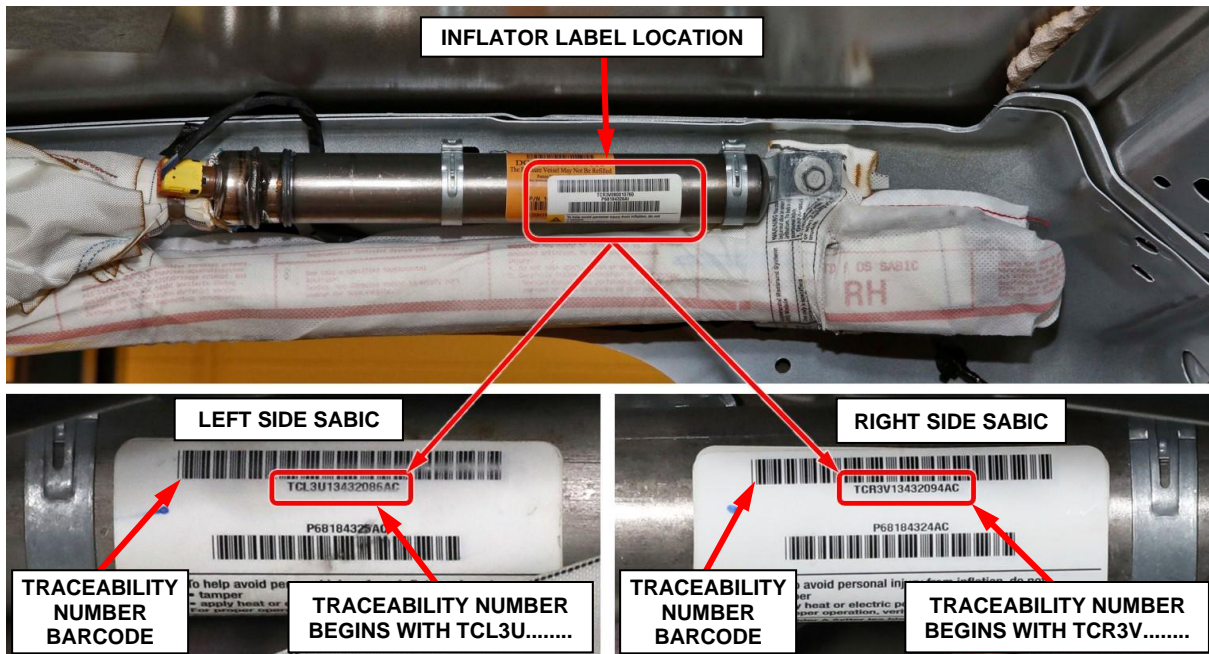

Figure 12 – SABIC Inflator Traceability Number Inspection
- 18. Locate the label on SABIC inflators. The traceability number will begin with TCL3Uxxxxxxxx for the left side or TCR3Vxxxxxxxx for the right side as shown in (Figure 12).